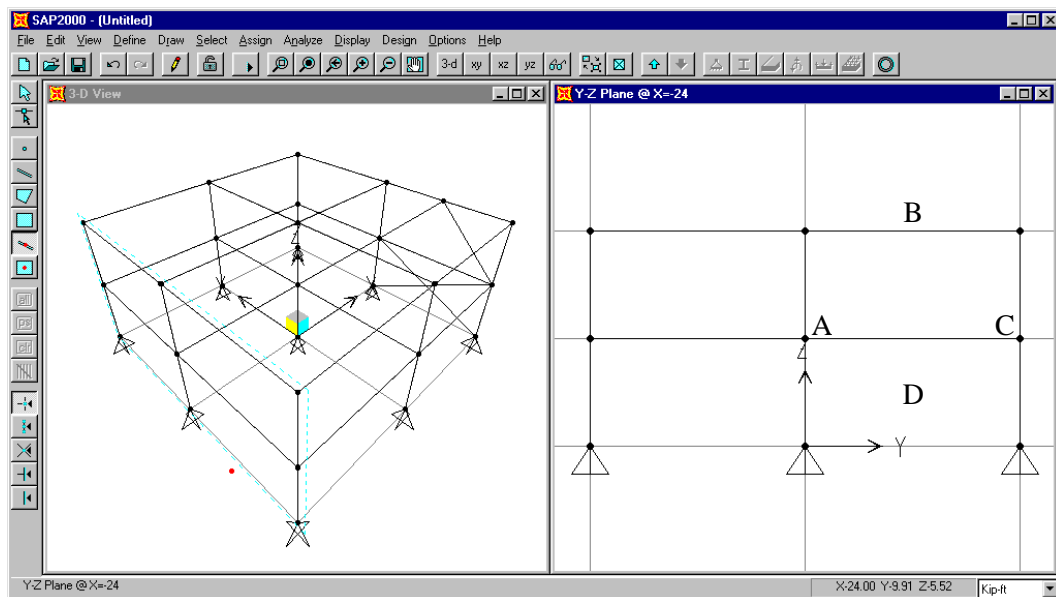

Figure C-5: Model Ready To Draw Second Set of Braces
16. Click the **Down One Gridline** button  on the main toolbar twice to display the YZ elevation at X=-24. Note the window title changes to Y-Z Plane @ X=-24. The model appears as shown in Figure C-5.
18. Place the mouse pointer on the joint labeled “A” in Figure C-5 and click on the left mouse button.
19. Move the mouse pointer over to the center of the beam element at the point labeled “B” in Figure C-5. When the Snap To feature text box appears saying “Midpoint” click the left mouse button to input the brace element. Then press the Enter key on the keyboard.
21. Click on the joint labeled “C” and then the joint labeled “B” in Figure C-5, and then press the Enter key on the keyboard to draw the second chevron brace member.
22. Click the **Quick Draw Frame Element** button  on the side toolbar. Then click in the area labeled “D” in Figure C-5 to enter the X-braces.